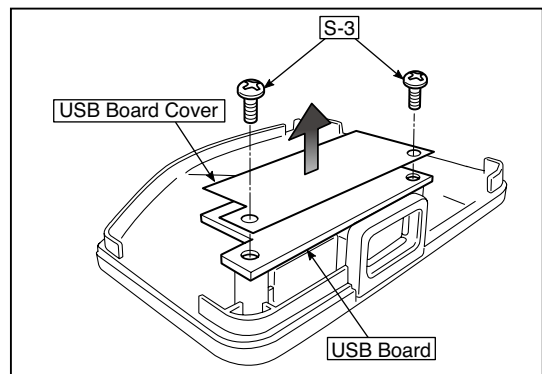

Fig.8
- 3.Remove the “S-3” screws shown in the figure 8 and then remove the USB Board.